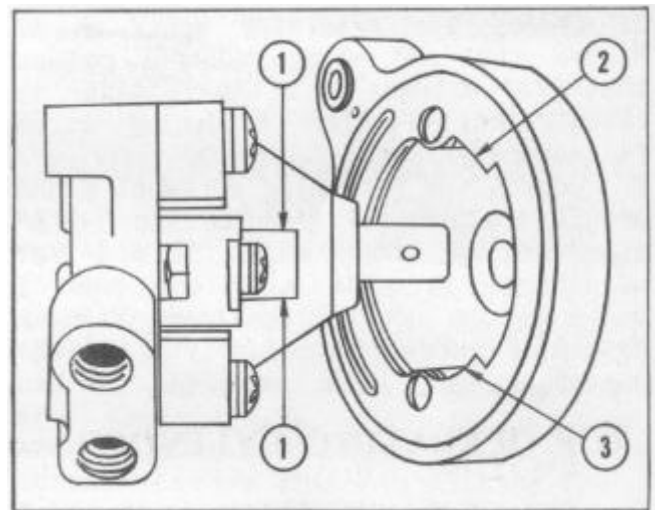

FIGURE 110
NOTE: The Phillips head screws attaching the valve and switch assembly to the support bracket are best removed with an offset Phillips head screw driver. The moulded plastic cover is held in place by four attaching screws and is sealed from leakage by a synthetic rubber gasket. A second rubber gasket installed between the plastic valve and inner cover seals the valve operating shaft against leakage. The switch assembly is held to the operating valve shaft by a Phillips screw (H). Figure 110 shows the top control valve with cover removed. Operating the top control rod moves the cover until contact is made between 1 and either 2 or 3, completing the circuit to the pump motor.